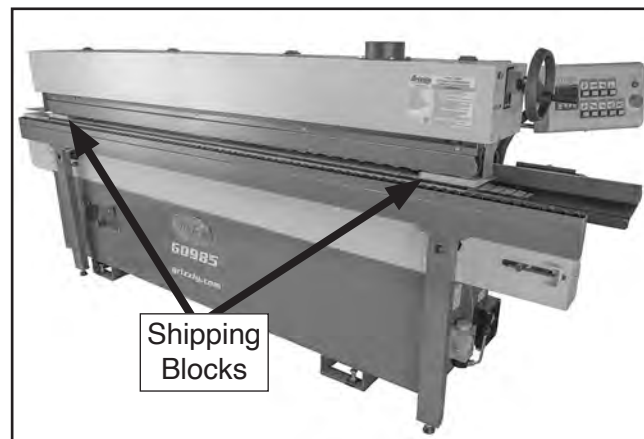

Figure 26. Location of shipping blocks.
10. Rotate panel feeder height handwheel *clockwise* to slightly raise panel feeder, then remove plastic sheet and wood shipping blocks from infeed and outfeed ends of panel feeder (see **Figure 26**).